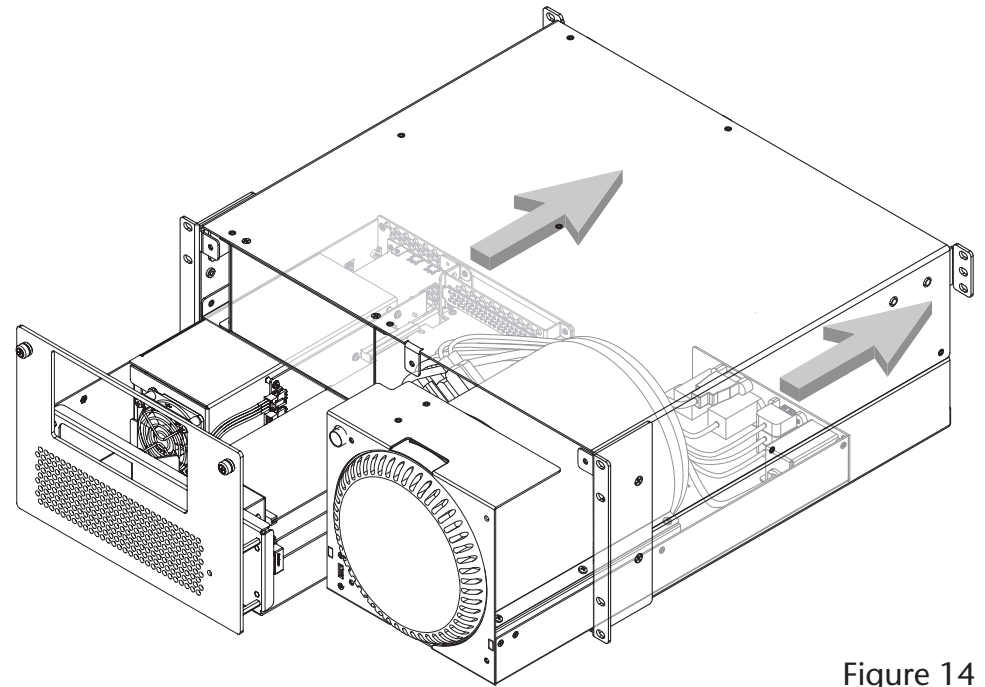

Figure 14
2. Carefully slide the computer mounting module into the xMac Pro Server's rackmount enclosure until it stops (**Figure 14**).
3. Carefully slide the PCIe card expansion module into the rackmount enclosure until it stops (**Figure 14**).